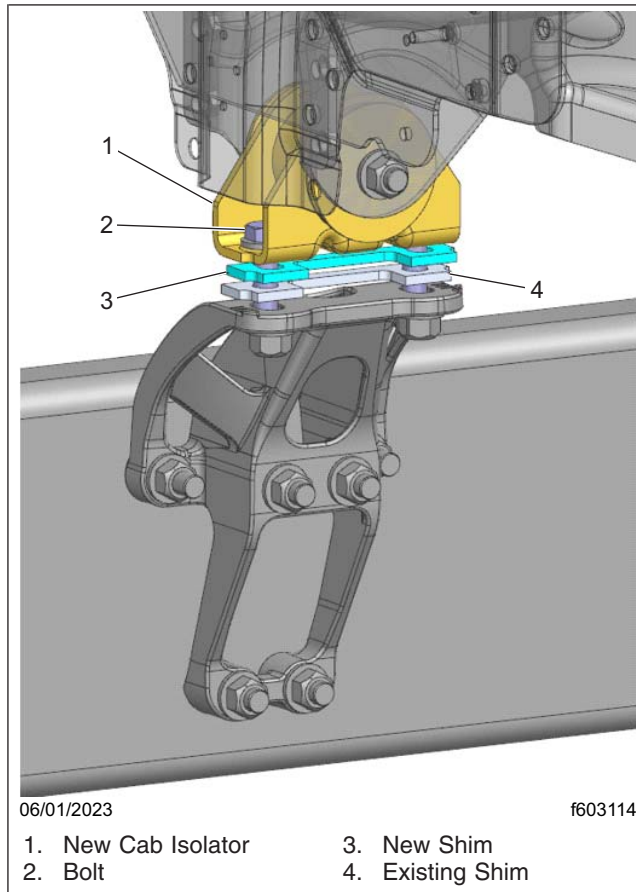

Fig. 5, Front Cab Isolator Assembly Installation with Shims
- Attach the cab mount isolator to the bracket on the cab underbody with the isolator bolt, washers, and nut, inserting the bolt from the inboard side. See Fig. 5. This procedure applies to both the left-hand and right-hand side cab installations.